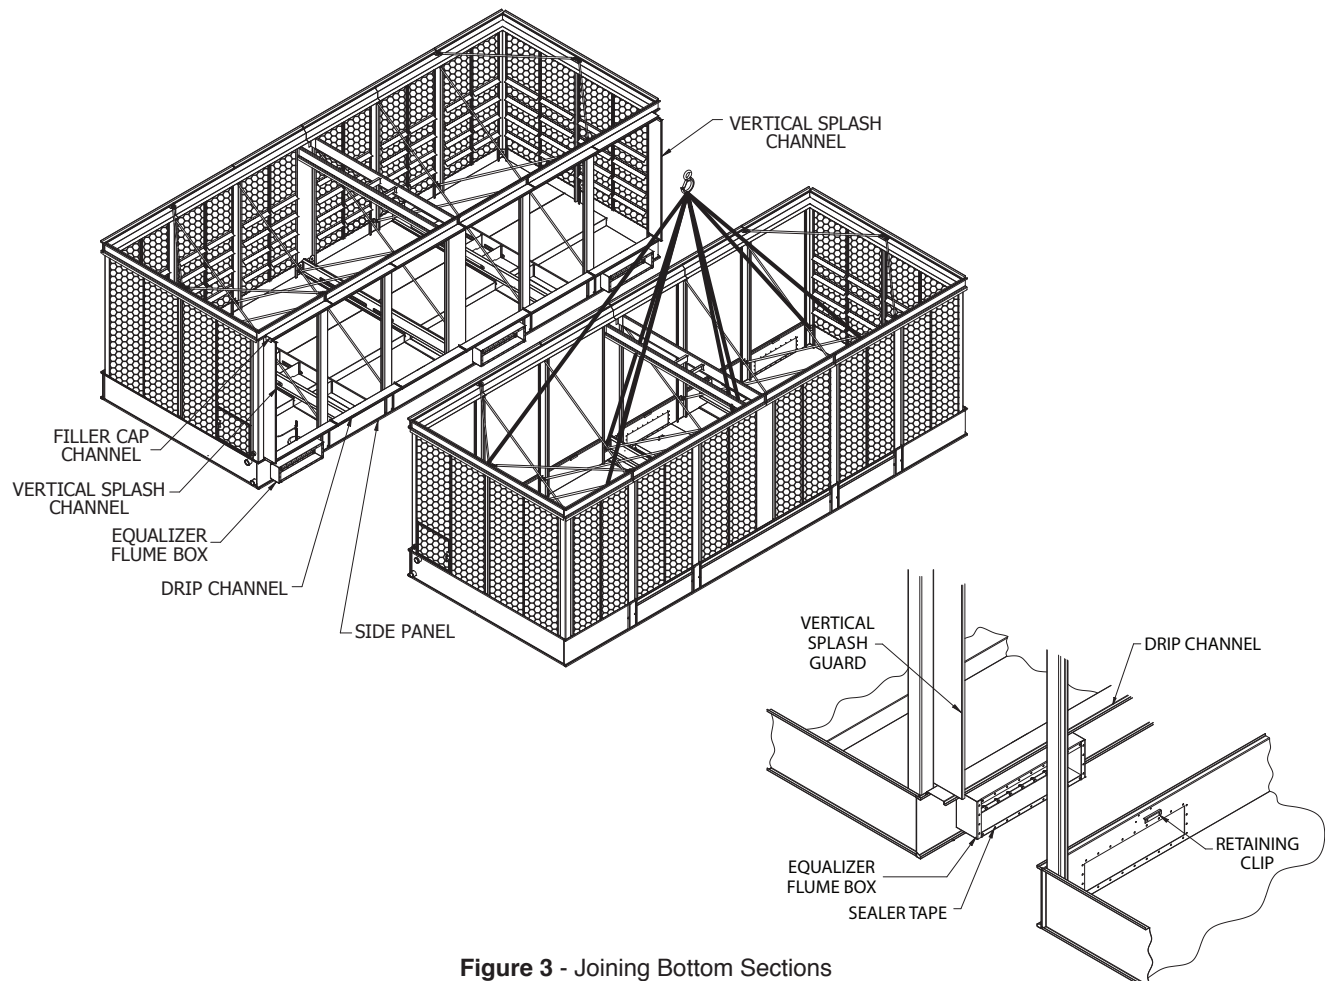

Figure 3 - Joining Bottom Sections
6. Rig the second basin adjacent to the equalizer flume on the steel support as shown in Figure 3.
3. Add sealer tape to bottom of vertical splash guard. Place the vertical splash guard in the bend of the vertical supports. On galvanized units, attach the vertical splash guard using 5/16" (8mm) self-tapping screws. On stainless steel units, attach the vertical splash guards using 5/16" (8mm) stainless steel nuts and bolts. (See Figure 3)
4. Once the bottom of the vertical splash guard has been attached to the drip channel, place the filler cap channel in the upper flanges of the basin as shown in Figure 3. Attach to vertical splash guards using 5/16" (8mm) tappers (for galvanized units) or stainless steel nuts and bolts (for stainless steel units).